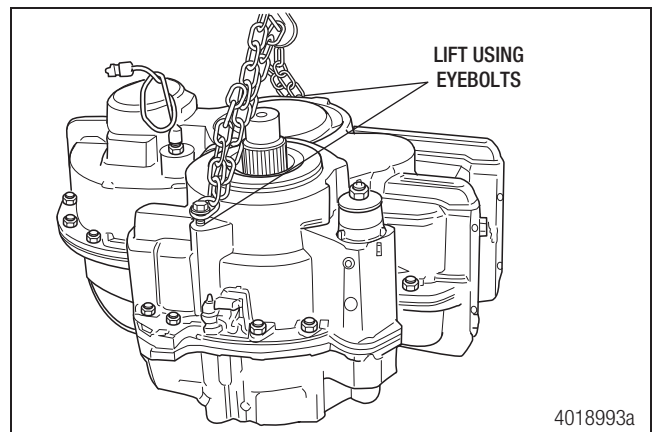

Figure 5.21
- Attach a suitable lifting device to the eyebolts. Lift the rear cover from the front case. Figure 5.21.